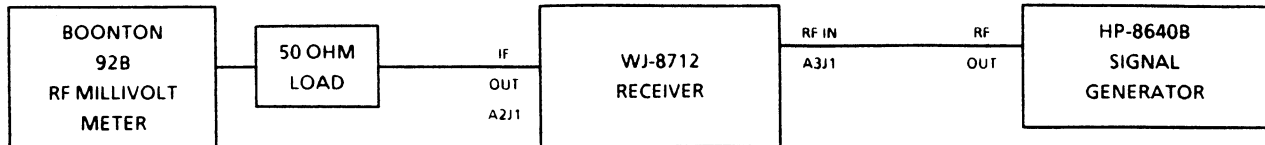

Figure 7-7. Reconstructed IF Output Performance Test Equipment Connection
1. Connect the WJ-8712 Receiver and test equipment as illustrated in **Figure 7-7**.